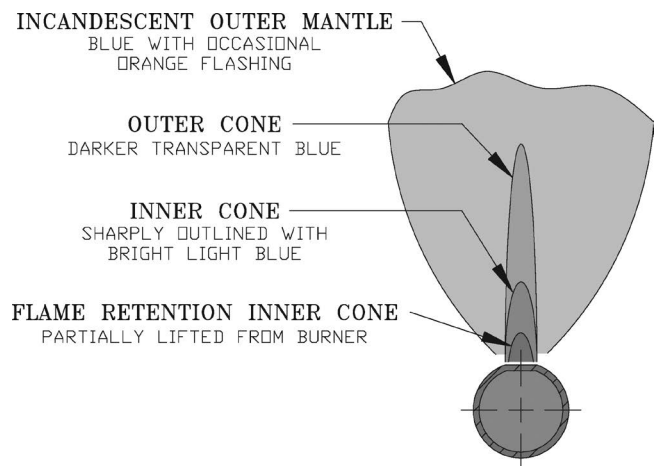

Figure 12-4: Main Burner Flame
13. Check Main Burner Flame - See Figure 12-4. Flame should have a clearly defined inner cone with no yellow tipping. Orange-yellow streaks caused by dust should not be confused with true yellow tipping.